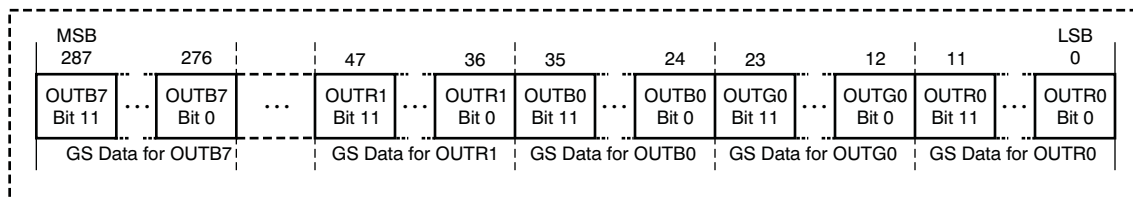

Figure 46. Grayscale Data-Latch Configuration
The grayscale (GS) data latch is 288 bits long. This latch contains the 12-bit PWM grayscale value for each of the TLC5951 constant-current outputs. The PWM grayscale values in this latch set the PWM on-time for each constant-current driver. See Table 6 for the on-time duty of each GS data bit. Figure 46 shows the shift register and latch configuration. Refer to Figure 3 for the timing diagram for writing data into the GS shift register and latch.